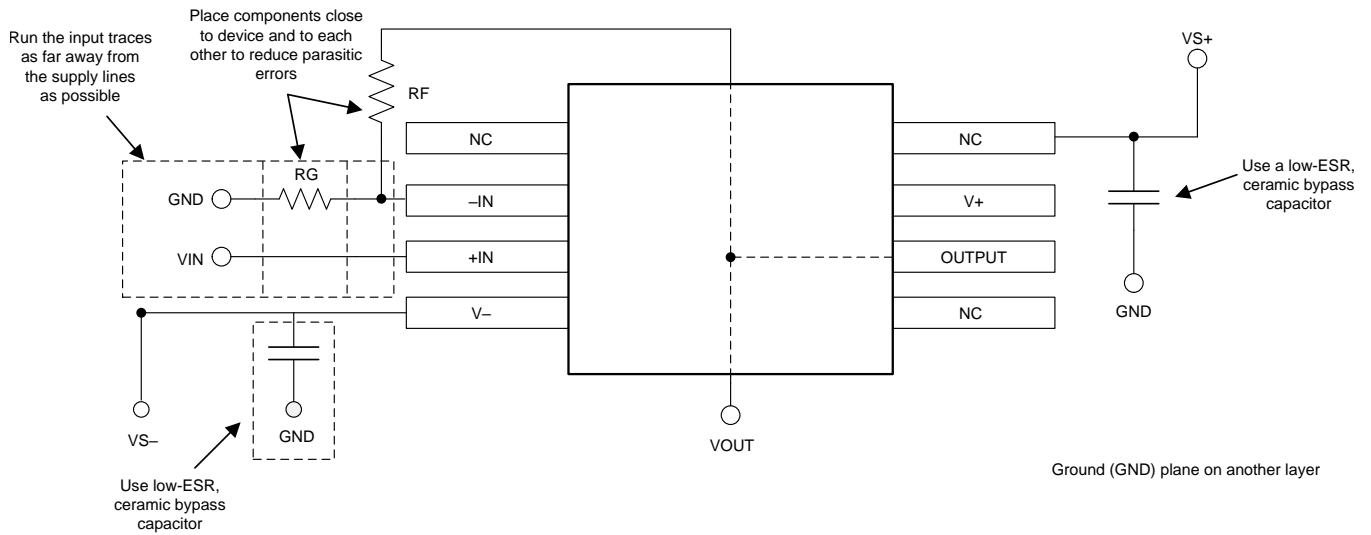

FIG 44. Operational Amplifier Board Layout for Noninverting Configuration
- Place the external components as close to the device as possible. Keeping RF and RG close to the inverting input minimizes parasitic capacitance, as shown in Figure 44.